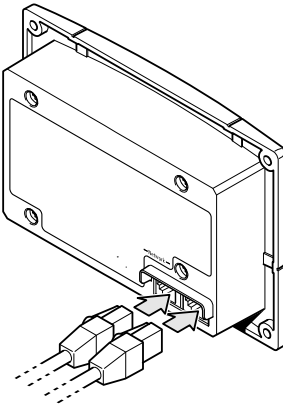

Figure 2-6 Connecting the Network Cables
5. Connect the Xantrex Xanbus cable(s) (and terminator if necessary) to either network input on the back of the Xantrex XW SCP. See Figure 2-6.
4. Connect the Xantrex Xanbus cable(s) (and terminator if necessary) to either network input on the back of the Xantrex XW SCP. See Figure 2-6.